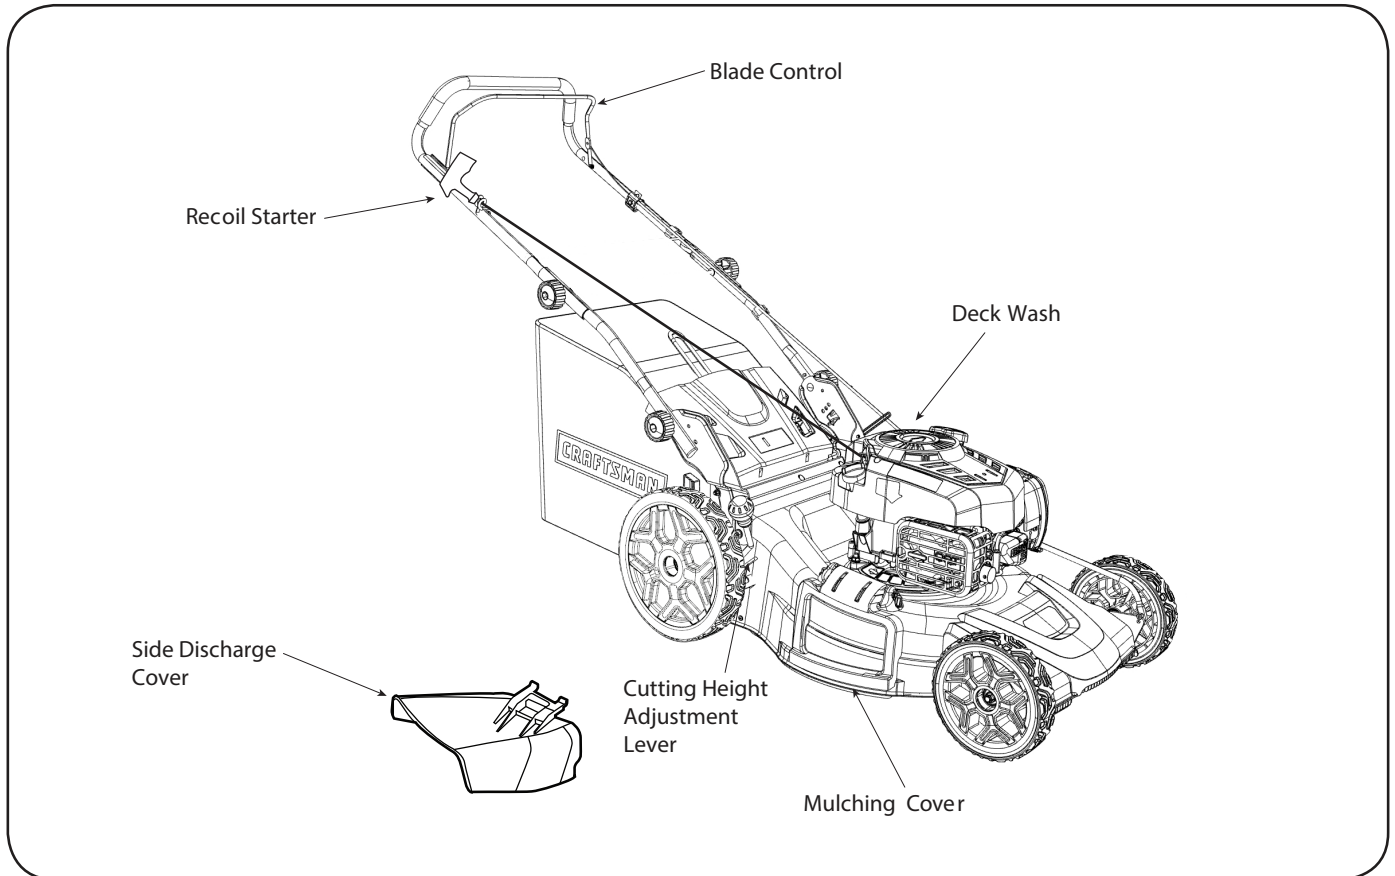

Figure 10
2. While holding the blade control against the upper handle, grasp the recoil starter handle and pull rope out with a rapid, continuous, full arm stroke (Figure 10). Keeping a firm grip on the starter handle, let the rope rewind slowly. Repeat until engine starts. Let the rope rewind each time slowly.